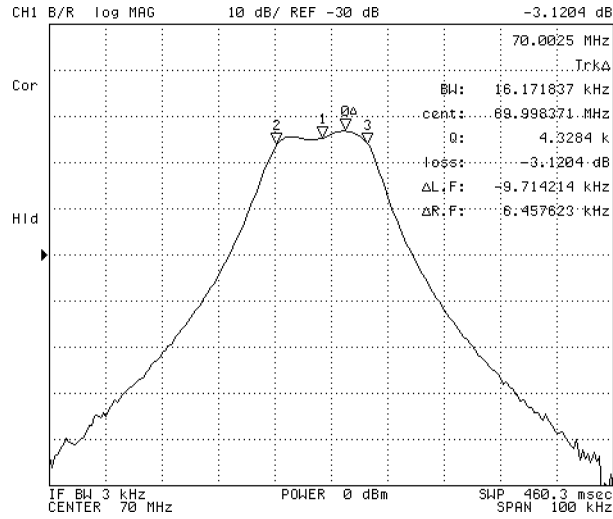

Figure 8-11. Bandwidth Measurement Using Width Function
As shown in Figure 8-11, a pair of sub-markers appear on both sides of the reference marker, being lowered by the specified number of levels; also, another sub-marker is displayed in the middle between the two sub-markers. The bandwidth (BW), center frequency of the bandwidth (cent), Q factor (Q), insertion loss (loss), and left and right hand bandwidth (ΔL.F and ΔR.F) are displayed at the upper right corner of the grid.